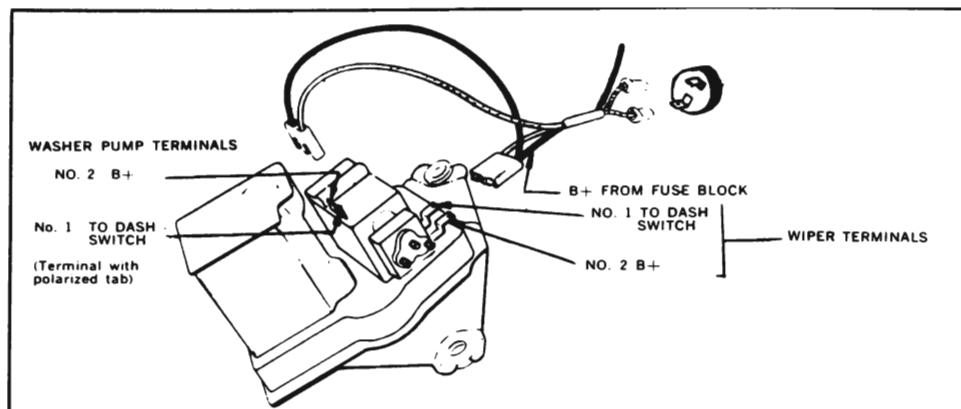

Figure 10-108—Washer Pump Connections
3. If correct voltage was found in Step No. 2, connect a jumper wire from terminal No. 1 to ground (Figure 10-108) and operate wiper. If washer relay "click" is heard and pump functions correctly, a defective dash switch or an open circuit between washer pump and dash switch is indicated - "No Click" indicates an open relay coil.
2. If all items in Step 1 check out, start wiper motor only, then push washer button and listen for "click" as washer relay pulls in. If no "click" is heard, check for 12 volts at terminal No. 2, Figure 10-108. No voltage indicates defective wiring. If "click" is heard, proceed to Step 4.